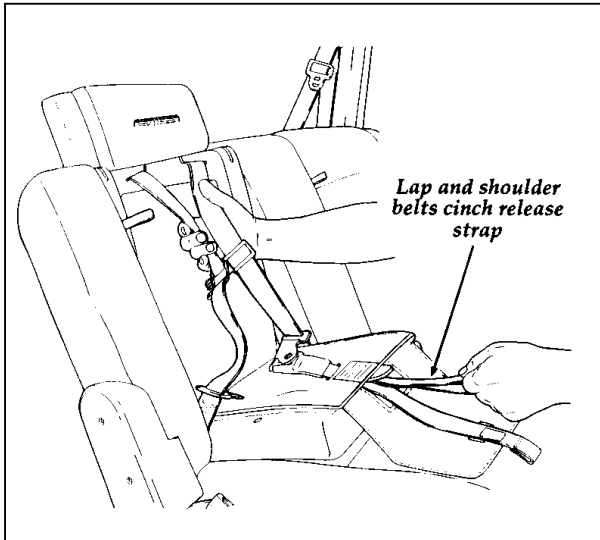

Figure 4
4. Grasp the shoulder portion of the belt and pull downward until all of the belt is extracted and a click is heard. At this time, the retractor is in the automatic locking mode (child seat restraint mode). See Figure 4.
6. Pull the lap and shoulder belts cinch release strap while pulling the shoulder belts fully out. Refer to Figures 4 and 5.
11. If the shoulder belts are pulled too tight, pull on the lap and shoulder belts cinch release strap to loosen the shoulder belts on the child's shoulders. Refer to Figure 4. Then retighten the lap and shoulder adjustment belt per Step 10 above.